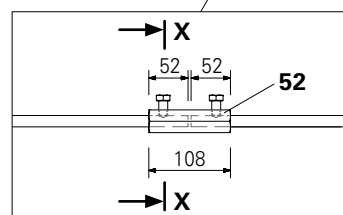

Fig. A7.04b
5. Screw the hex. nut back until the flat side of the tie rod is perpendicular to the bolt. (Fig. A7.04b + c)
6. Hand-tighten* the second hex. bolt (**52.2**). (Fig. A7.04b + c) → Coupled tie rods are secured.
- Check tightness of bolts M12 x 20 of the tie rod extensions. (Fig. A7.04b +c)